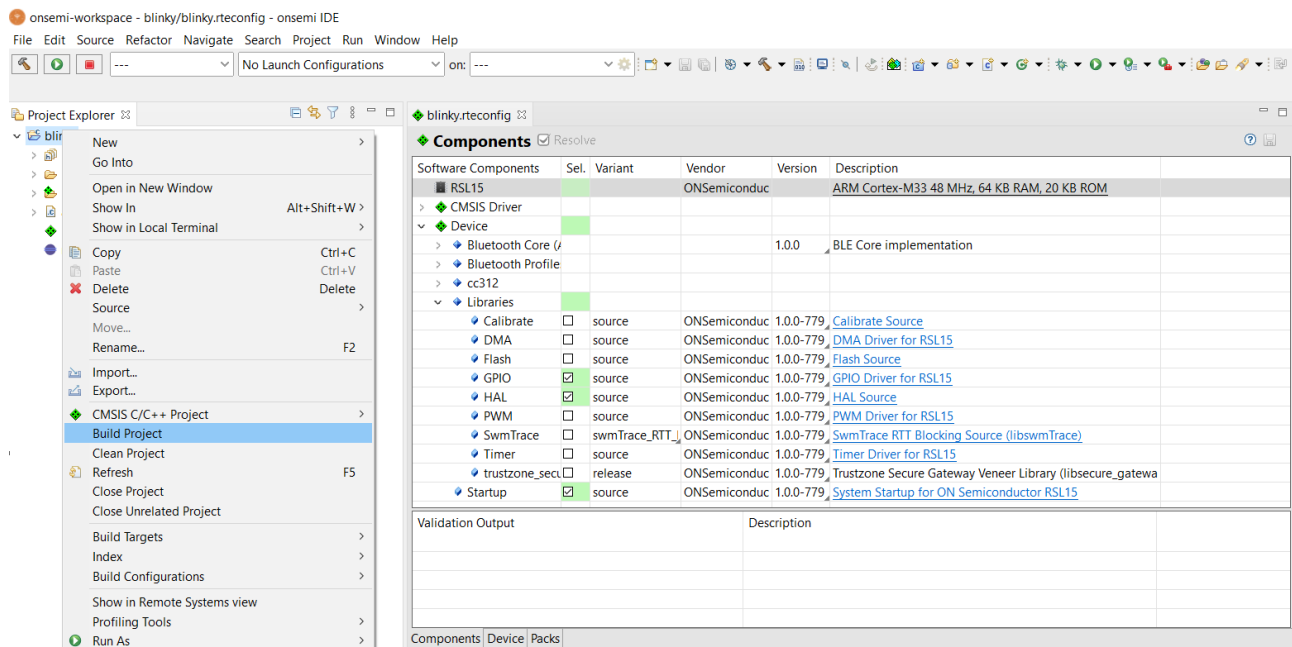

Figure 10. Beginning to Build a Project in the onsemi IDE
1. In the Project Explorer view, right click on the folder for *blinky* and click **Build Project**. Alternatively, you can select the project and click the **Build Project icon**, which looks like a hammer, as shown in the figure "Beginning to Build a Project in the onsemi IDE" (Figure 10).